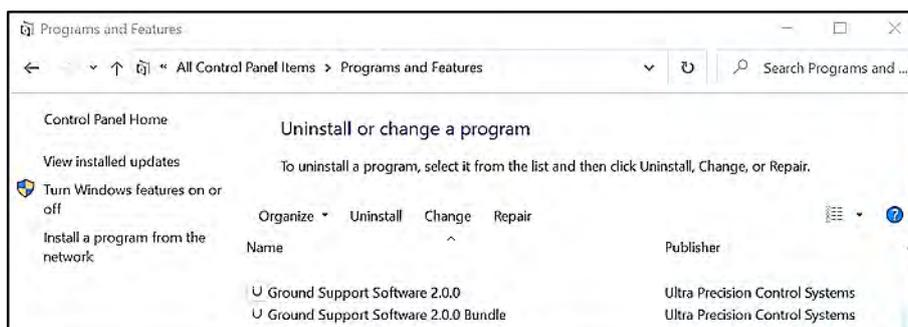

Figure 3-1 GSS Change
- (e) Highlight Ground Support Software 2.0.0 (**Ref Fig 3-1**).